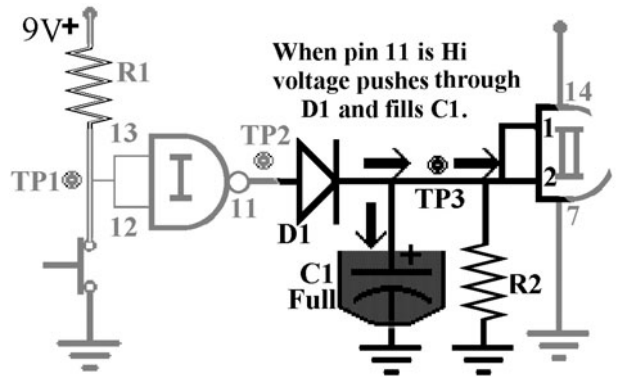

Figure L20-2
- Both inputs of the NAND gate are now connected directly to ground; that is to say, they are *tied to ground*, as shown in Figure L20-2. Remember that in the NAND gate, if either input receives a low, it produces a high output.